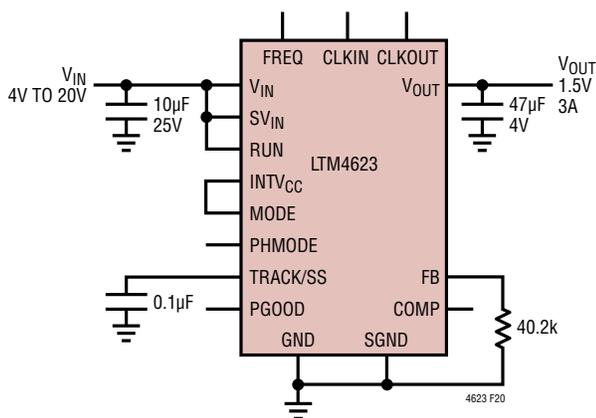

Figure 24. 4VIN to 20VIN, 1.5V Output at 3A Design
**Table 7. Output Voltage Response vs Component Matrix (Refer to Figure 24)**